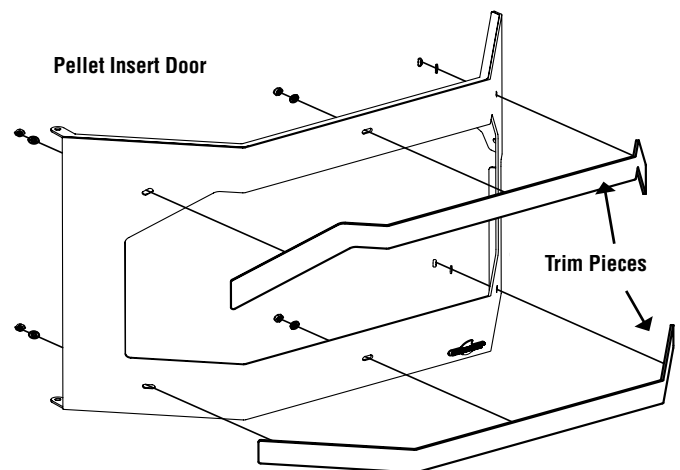
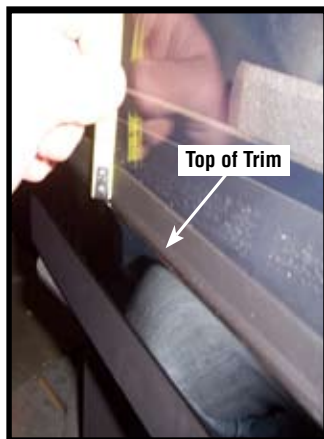

Figure 14
Figure 18
3. Open front door. Put trim in place by inserting trim studs into the corresponding holes in the door (**Figures 14 and 15**). The top piece of trim will only fit in one direction, but the bottom piece can be installed incorrectly. When placing the bottom piece of trim, make sure there is a 9/16" gap between the top of the trim piece and the glass in the door. See **Figure 18**.